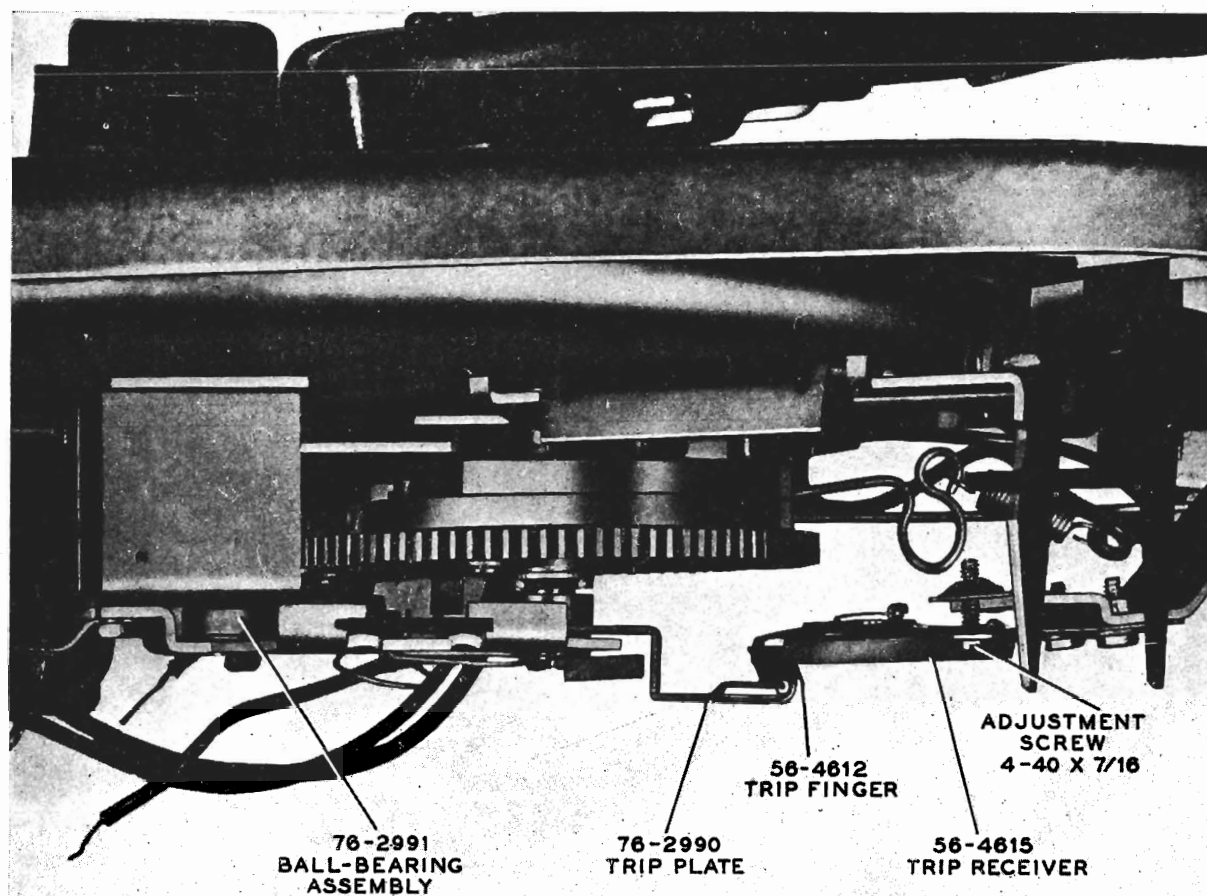

Figure 16—TRIP-FINGER ADJUSTMENT
For the trip-finger adjustment, move the tone arm toward the spindle. Adjust the screw on the trip-receiver plate (figure 16) so that the trip finger, when riding over the ratchet screw on the trip plate, assumes an angle of 25° to 30° with respect to the screw. Do *not* bend the trip finger to obtain the correct angle.
For the trip-receiver adjustment, place the tone arm on a record with the needle resting in the eccentric finish groove. The vertical center line of the trip finger should coincide with the center line of the ratchet screw. To adjust the centering of the trip finger over the ratchet screw, loosen screw B slightly, and screw A completely (see figure 11). Rotate the trip receiver about screw B, as a center, to obtain the correct adjustment (see figure 16). Tighten the screws.
- b. Remove ball-bearing assembly, 76-2991 (figure 16), by pulling it off.